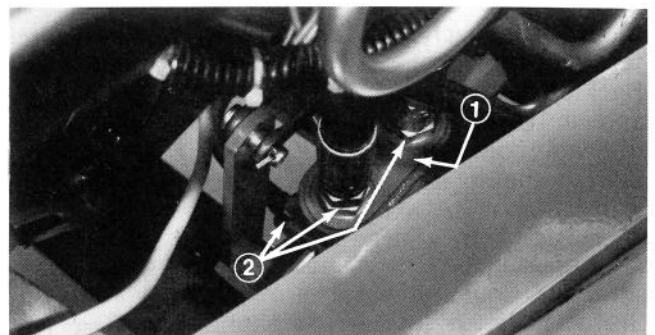

Figure 111
1. Lower cutting units, place drain pan under valve and disconnect linkage (Fig. 111).
2. Remove and cap all lines to valve (Fig. 111).